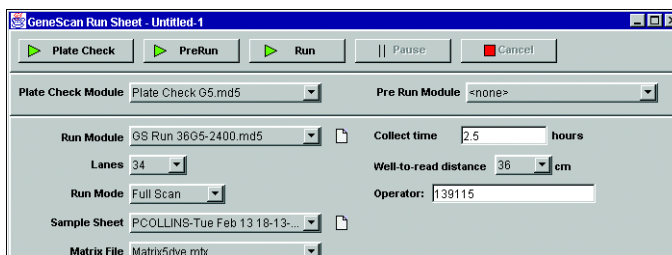

Figure 6-2 Settings for GS Run 36G5-2400.md5 Run Module
- d. Click the document icon to the right of the Run Module to verify the electrophoresis settings for the particular run. Make sure the settings are the same as shown in Figure 6-2.